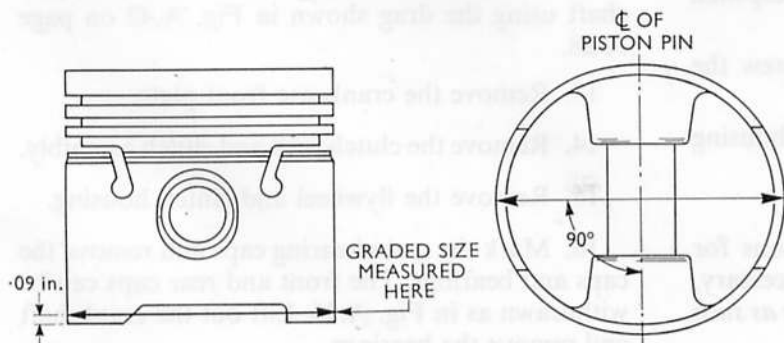

Fig. A.49. The piston graded size must only be measured at the diameter indicated and at right angles to the piston pin
**IMPORTANT:** *As the piston skirt is ground both oval and taper it is imperative that the measurement is made at the diameter indicated in Fig. A.49, and at right-angles to the piston pin. Only at this point can the correct piston graded size be established.*